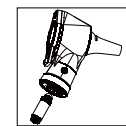

fig.4
1. Changing the bulb (fig.4)
- Diagnose by aiming the light to the patient's eye as fig.4.